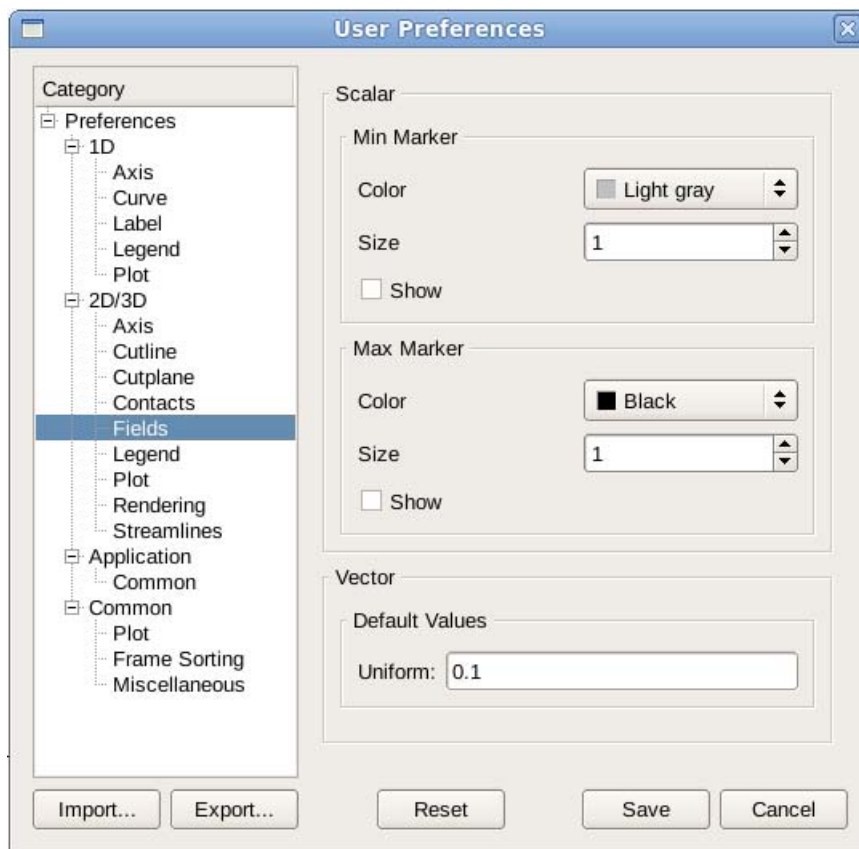

Figure 80 Available preferences for minimum and maximum markers
2. In the User Preferences dialog box, expand **2D/3D > Fields** (see Figure 80).